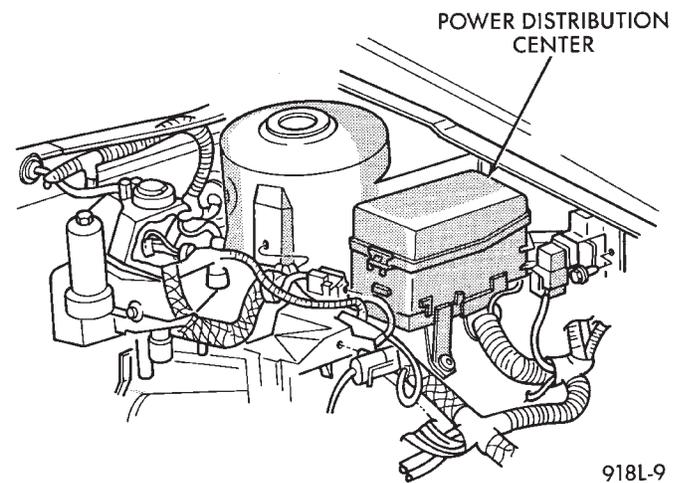

Fig. 1 Power Distribution Center—Typical
- (1) Turn the headlight switch ON.
- (2) Open the hood and locate the power distribution center forward of the left front suspension tower (Fig. 1). Remove the cover.